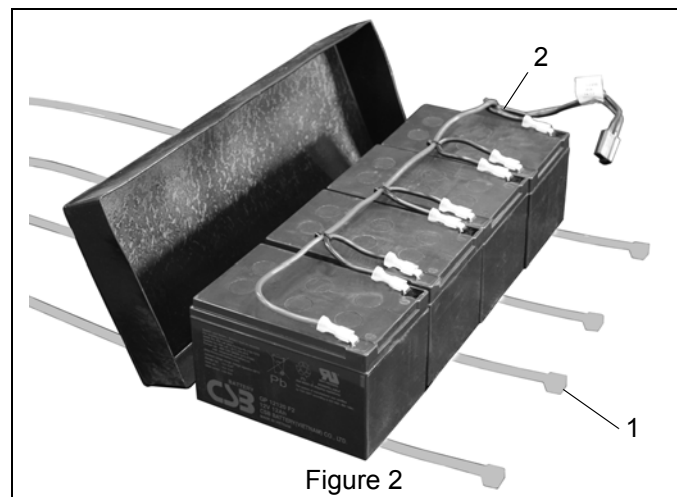

Figure 2
2. Place one zip tie (item 1) under each battery. Ensure that zip ties face in the same direction.
3. Connect battery harness (item 2) to batteries. See Figure 2.